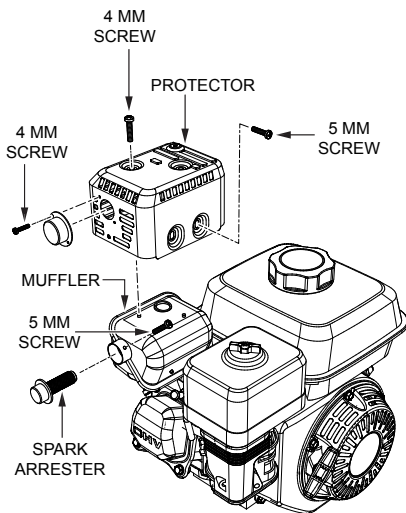

Figure 26. Spark Arrester Removal
1. Remove the 4 mm screws (3) from the exhaust deflector, then remove the deflector (Figure 26).
2. Remove the 5 mm screws (4) from the muffler protector, then remove the muffler protector.